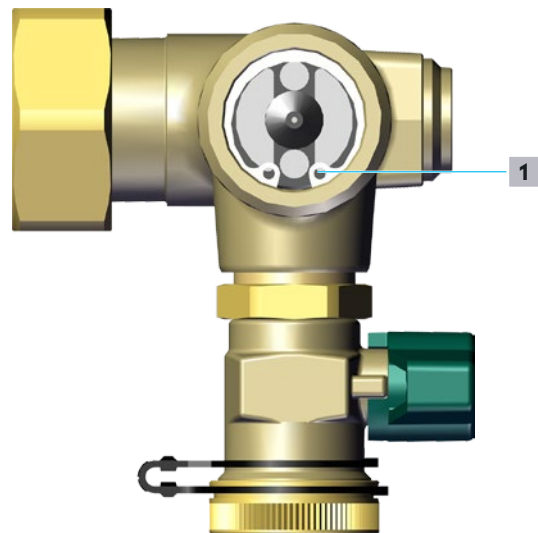

Fig. 36: Circlip
- 1** Loosen the circlip (position **1** in Fig. 36 on page 38) with suitable circlip pliers.
- 2 Insert the circlip (position 1 in Fig. 36 on page 38).